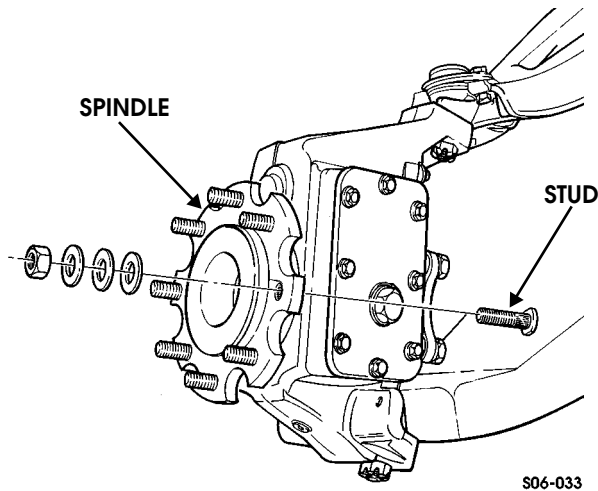

Figure 9-42: Geared Hub Spindle Stud Removal
2. Rotate spindle to allow clearance for removal of stud from spindle (Figure 9-42).
1. Install stud in spindle (Figure 9-42).